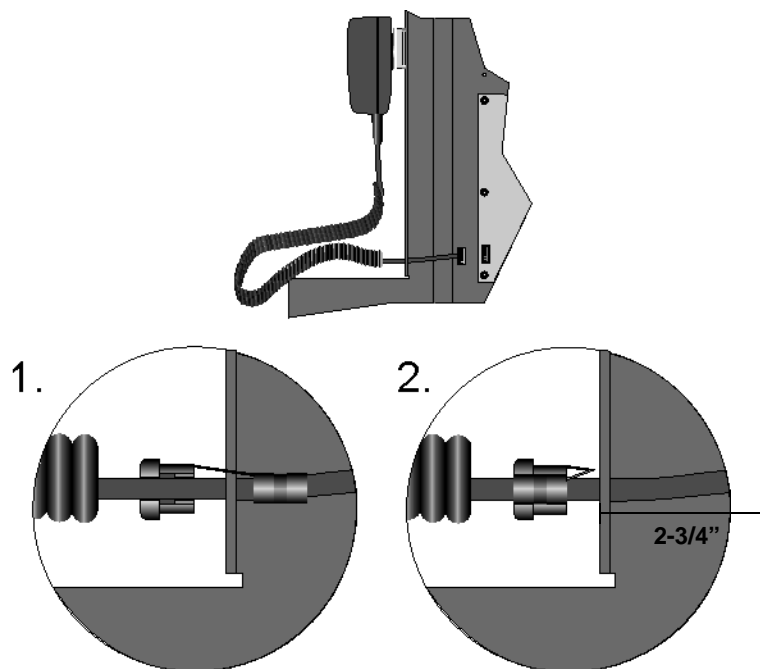

Figure 4-6 Installing Strain Relief Clip
3. Attach strain relief clip to microphone cord. The strain relief clip should have about 2¾" of microphone cord through it. See Figure 4-6.